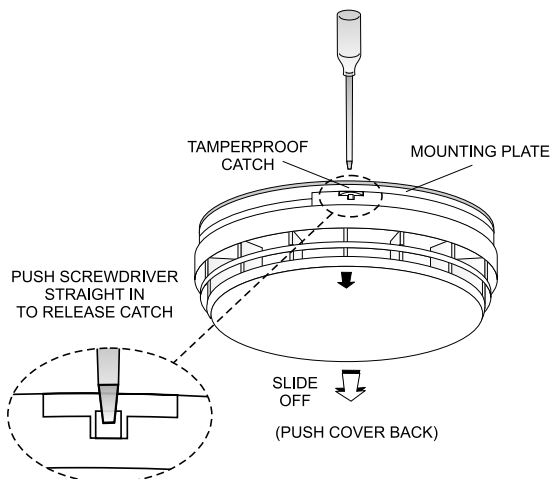

Figure 1a
2. Remove the mounting plate from the Smoke Alarm by releasing the tamperproof catch with a small screwdriver as shown in figure 1a and sliding the alarm from the mounting plate.